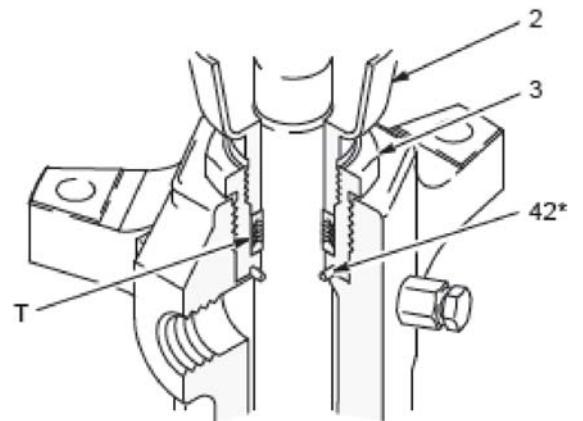

Fig. 10 Model 236611 Displacement Pump Shown
7. Using a rubber mallet, drive the displacement rod (1) and the priming piston rod (18) out of the outlet housing (9) and cylinder (10). Inspect the outer surfaces of the rods for damage by running a finger over the surface.
8. Unscrew the packing nut (2). Unscrew the packing housing (3) and remove the seal (42). Remove the throat glands and packings (T). See Fig. 10.